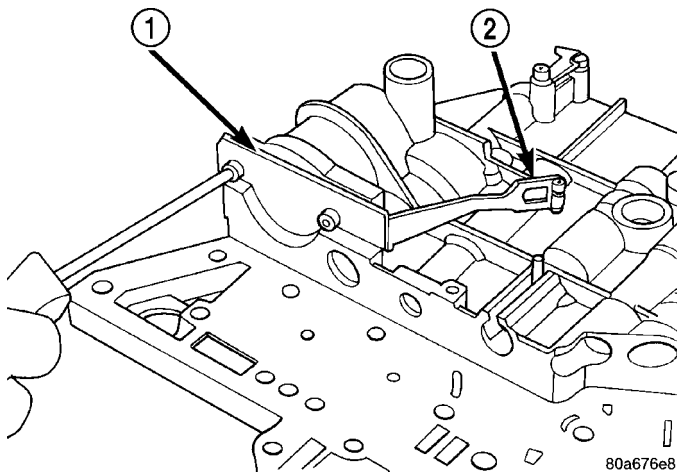

Fig. 344 2/4 Accumulator Retaining Plate
(13) Torque 2/4 Accumulator retainer to 5 N·m (45 in. lbs.) (Fig. 344).